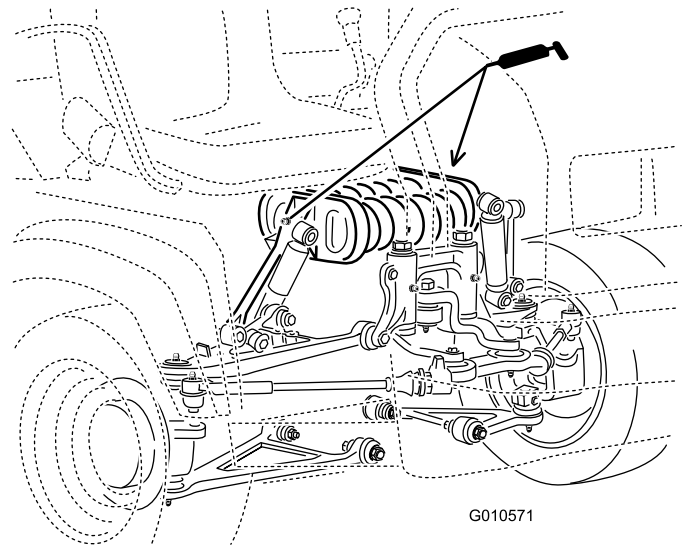

Figure 36
- Spring tower (2) as shown in Figure 36